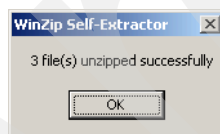

Figure 21-11 WinZip complete
4. Click **OK** to confirm that all files are extracted (Figure 21-11).